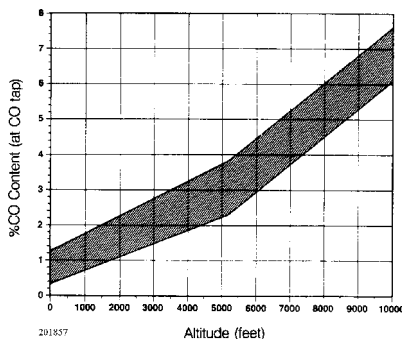

Fig. 6: Idle Mixture CO Tolerance Chart
4) Check idle speed and adjust if necessary. With the crankcase ventilation plugged and the coolant sensor disconnected, idle speed should be 800  $\pm$  50 RPM. At idle the CO reading should be within the specifications given in Fig. 6.